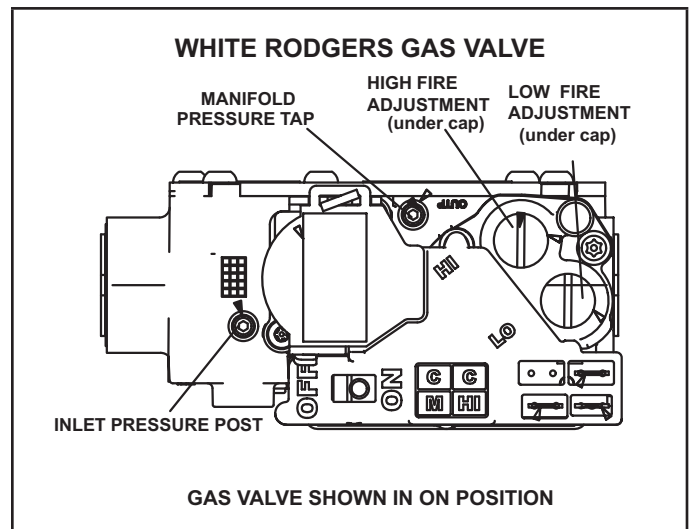

FIGURE 57
Gas Valve Operation (FIGURE 57)
- 6 - Move gas valve switch to **OFF**. See FIGURE 57.
- 8 - Move gas valve switch to **ON**. See FIGURE 57.
An inlet pressure post located on the gas valve provides access to the supply pressure. See FIGURE 57. Back out the 3/32 hex screw one turn, connect a piece of 5/16 tubing and connect to a manometer to measure supply pressure. See TABLE 27 for supply line pressure.
A manifold pressure post located on the gas valve provides access to the manifold pressure. See FIGURE 57. Back out the 3/32 hex screw one turn, connect a piece of 5/16 tubing and connect to a manometer to measure manifold pressure.
- 5 - If necessary, make adjustments. FIGURE 57 shows location of high fire and low fire adjustment screws.